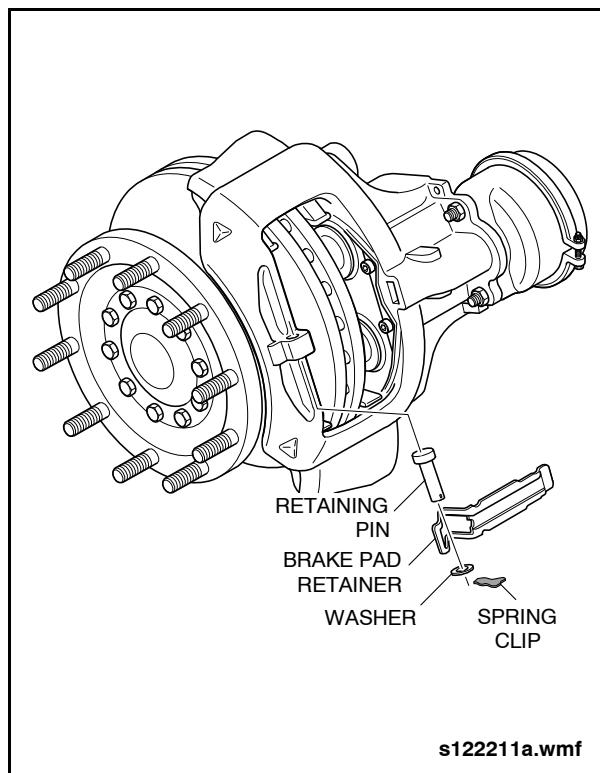

Fig. 1-55: Brake Pad Retainer Installation
- a. Insert the inboard end of the pad retainer into the groove and apply sufficient downward pressure to allow insertion of the retaining pin. See "Fig. 1-55: Brake Pad Retainer Installation" on page 62.